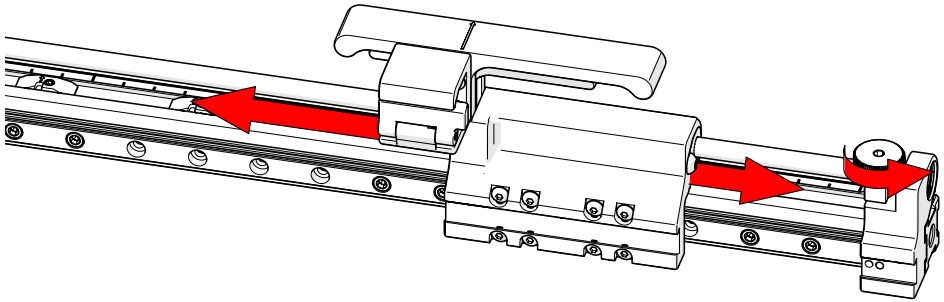

Fig. 27 - Loosen the leadscrew clamp knob
1. Loosen the leadscrew clamp knob (Fig. 27) to allow carrier movement along the frame bar.